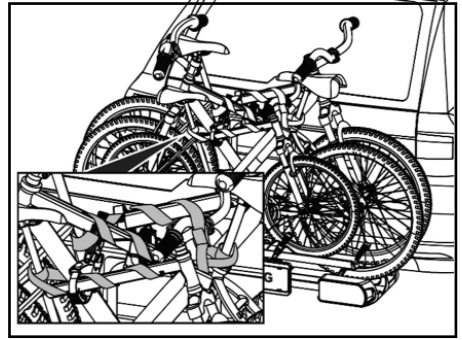

Figure 12: Arranging the safety strap
- Before embarking on any journey, check that the strap is fastened correctly and firmly around the bicycles and U-frame of the rack (Figure 12).